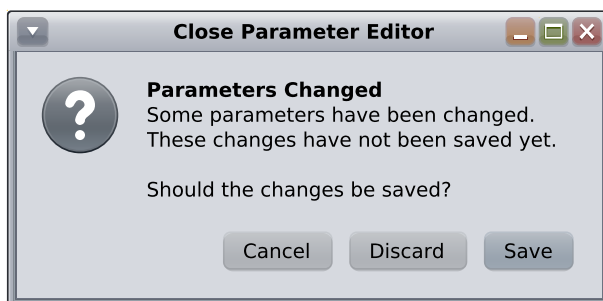

Figure 1.60: Dialog Parameters Changed
- A dialog (see [Figure 1.60 \[p. 76\]](#)) is displayed, if another processing is currently edited and has been modified. The dialog allows to save or discard the modifications for the currently edited processing or to cancel the edit operation.